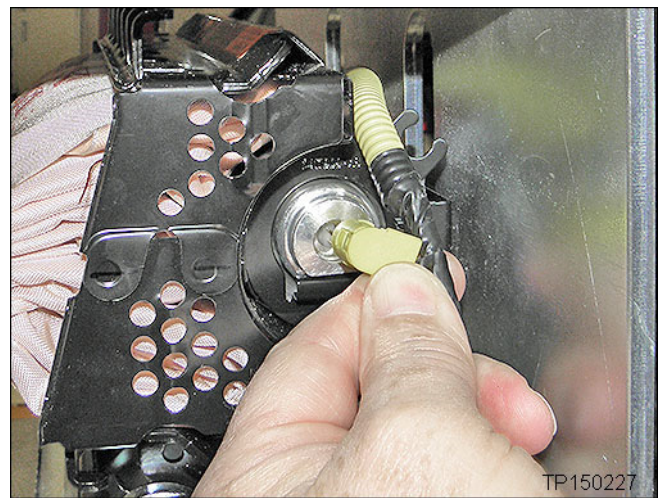

Figure 22
- Make sure to attach the harness correctly - refer to Figures 22, 23 and 24.